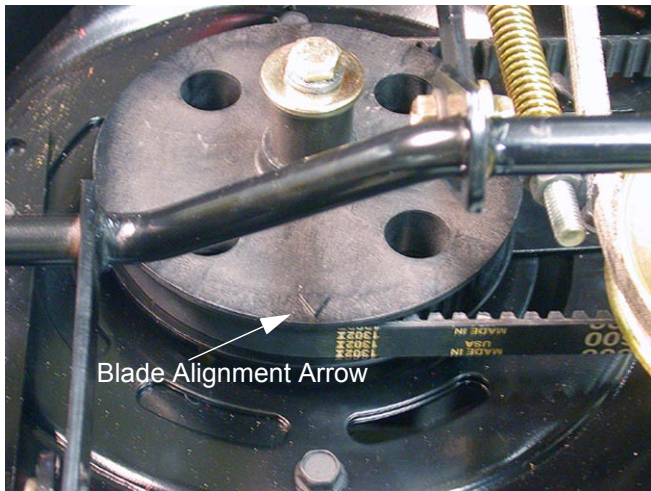

Figure 18
**IMPORTANT:** Time the blades properly during reassembly. Set the cutting blades perpendicular to each other during installation of the toothed drive belt. There are arrows cast into the cogged pulleys to help align the blades. Offset these arrows by 90 degrees. See Figure 18.